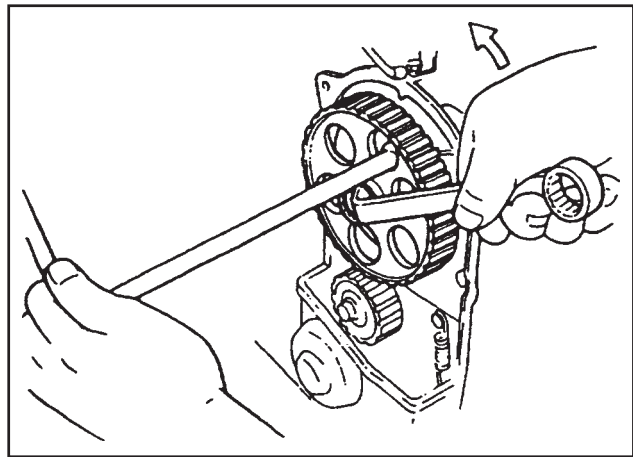

FIGURE 2. REMOVE THE CAMSHAFT GEAR
11. See FIGURE 2. Remove the camshaft pulley. Prevent rotation of the pulley and loosen the capscrew. Remove the capscrew and the pulley.